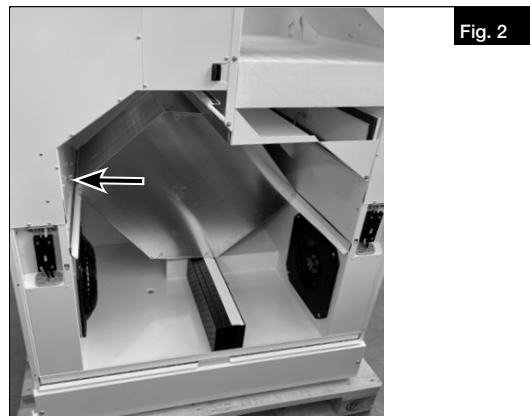

Fig. 2
3. Remove the screws fixing the electrical post heater (see Fig. 2).